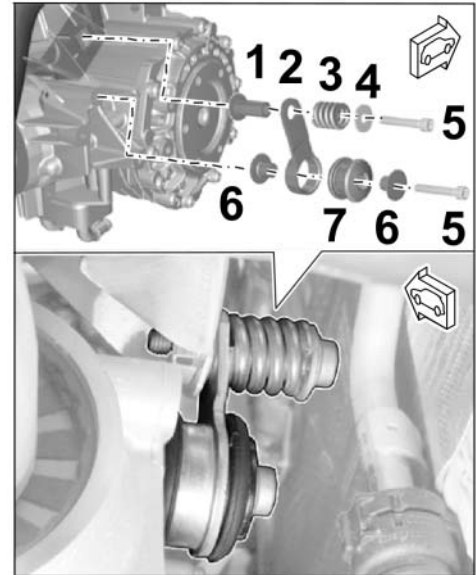

Figure 40
4.1.1 Install new exhaust pipe with a new seal and new spring/tab assembly (\Rightarrow Figure 40). \Rightarrow Workshop Manual '261719 Removing and installing exhaust pipe - T9I'